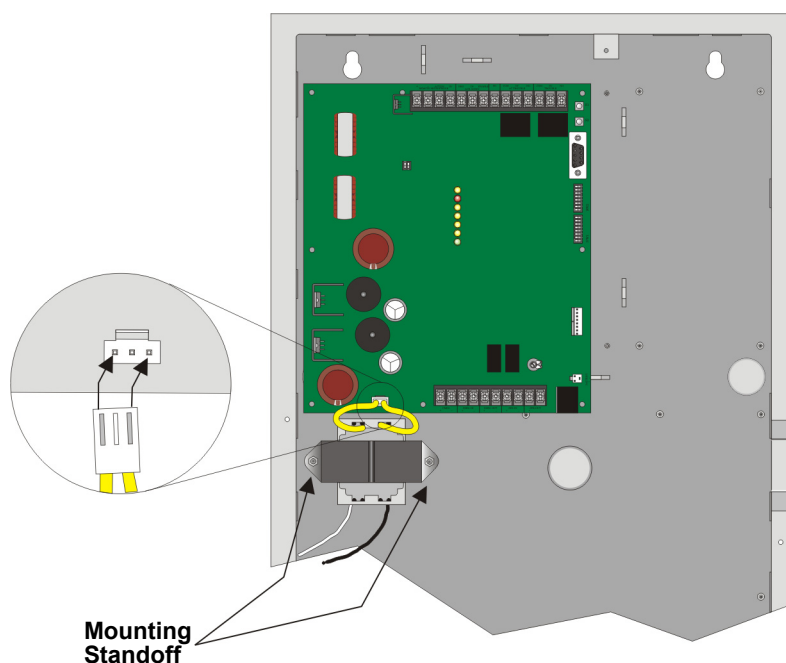

Figure 3-13 Transformer Mounting
3. Mount the transformer onto the cabinet standoffs with the supplied #6 nuts as shown in Figure 3-13.
5. Plug the transformer output to the AC connector on the control panel as shown in Figure 3-13.